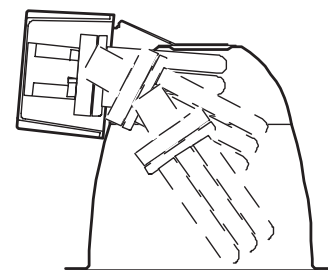

Fig. 8
D. LAMPING (FIG. 8)
Line up Lamp Pins with **Socket**, tilt lamp base to engage, then bring lamp to horizontal position and push into **Socket** (FIG. 8). To relamp, CAREFULLY PULL STRAIGHT OUT OF SOCKET WITH ONE FINGER PLACED ON THE TOP OF THE LAMP.
Line up **Lamp Pins** with **Socket**, tilt lamp base to engage, then bring Lamp to horizontal position and push into **Socket** (FIG. 8). To relamp, CAREFULLY PULL STRAIGHT OUT OF SOCKET WITH ONE FINGER PLACED ON THE TOP OF THE LAMP.